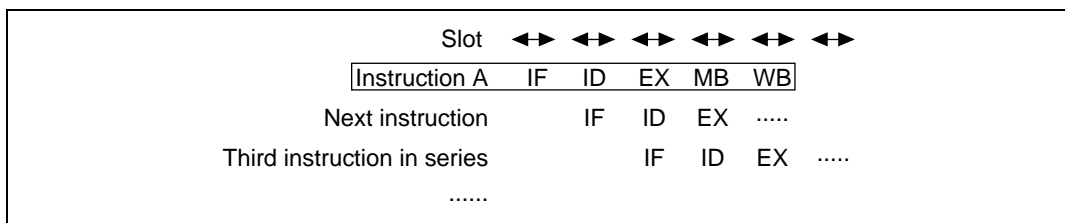

Figure 10.23 Memory Load Instruction Pipeline
The pipeline has five stages: IF, ID, EX, MA, and WB (figure 10.23). If an instruction that uses the same destination register as this instruction is placed immediately after it, contention will occur (see section 10.2.2, Effects of Memory Load Instructions on Pipelines). Also, see section 10.2.1, Contention between Instruction Fetch (IF) and Memory Access (MA), with reference to contention between the MA and IF stages of these instructions.
(3) Memory Store Instructions